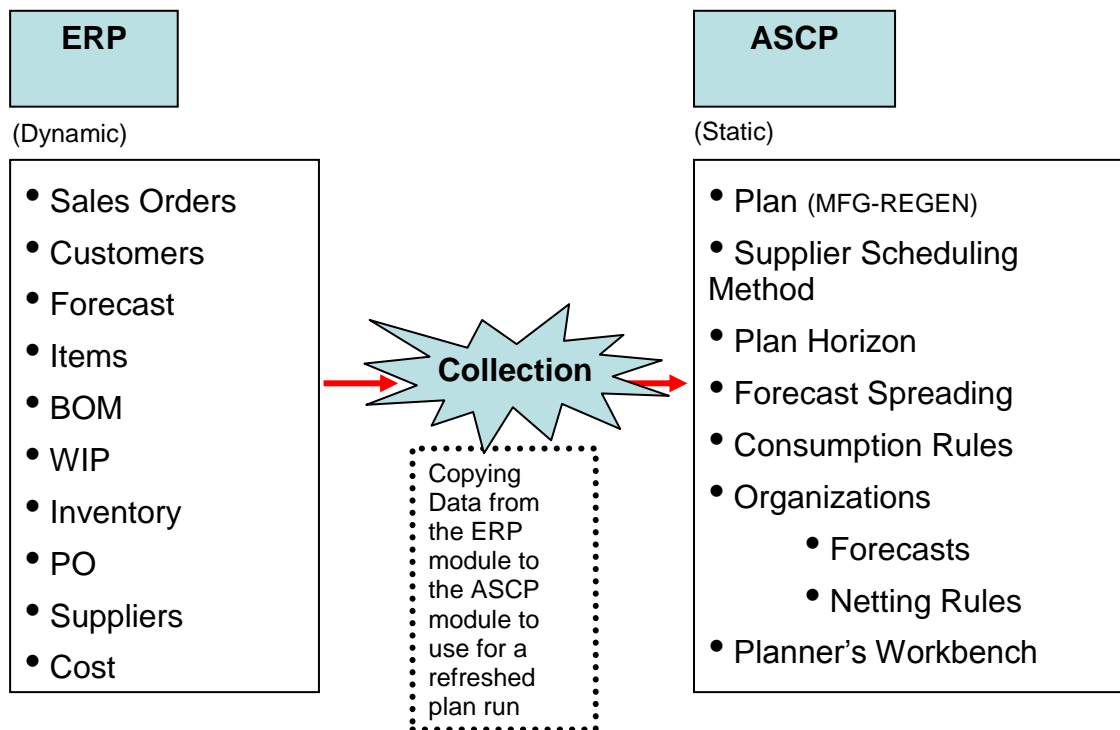

Figure 4
Figure 4, below, describes this relationship between the ERP transactional modules on the left side of the figure and the Advanced Supply Chain Planning (ASCP) modules on the right hand side of the page. The ERP transactional modules include Order Management (OM), Accounts Receivable (AR/ Customer Master), Inventory (Item Master), Bills of Material (BOM), Purchasing, Accounts Payable (Supplier Master), and Costing. On the right hand side of the figure, the Advanced Supply Chain Planning family includes Planning, Supplier Scheduling, Sourcing Rules, and Planners Workbench.